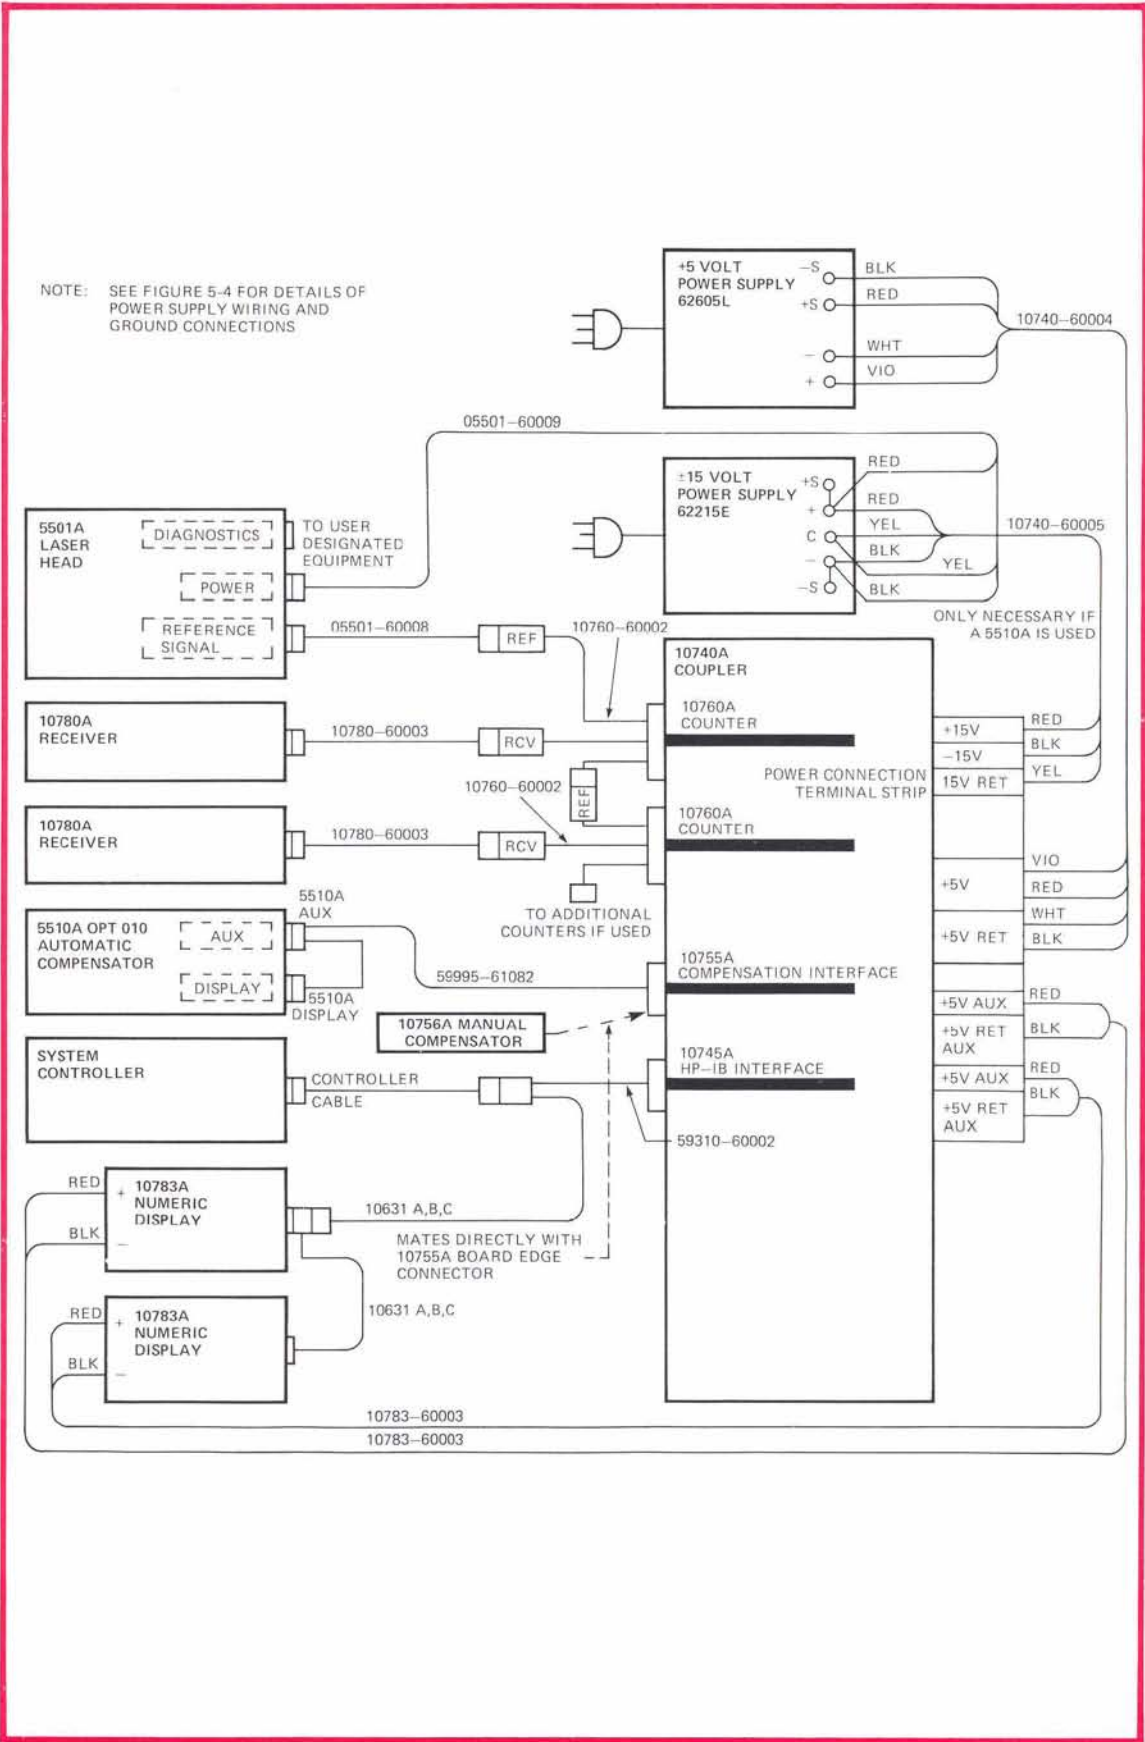

Figure 5-6. Typical HP-IB Controller Interface Electronics Interconnecting Diagram
- g. Connect the reference/measurement cables from the laser head and first receiver to the first 10760A Counter card (see *Figure 5-6* for a typical system interconnect).
- h. Connect the hooded connectors in sequence to each of the additional 10760A Counters in the system and daisy-chain the REF connectors as shown in *Figure 5-6*.